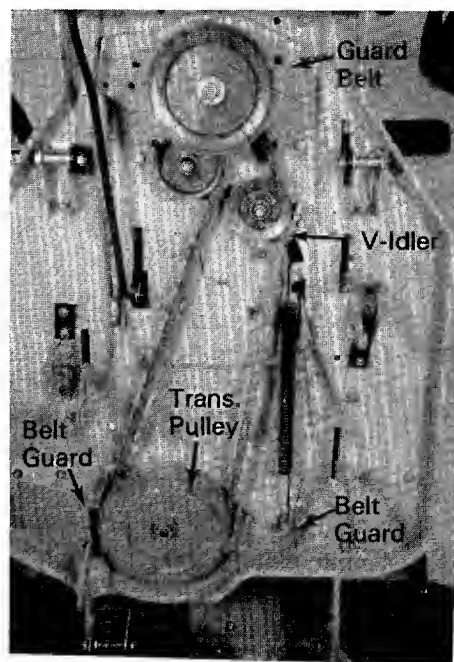

Figure 21.
6. Remove the six pins holding the deck to the frame (See figure 21.)
### TRANSMISSION BELT (See figure 21.)